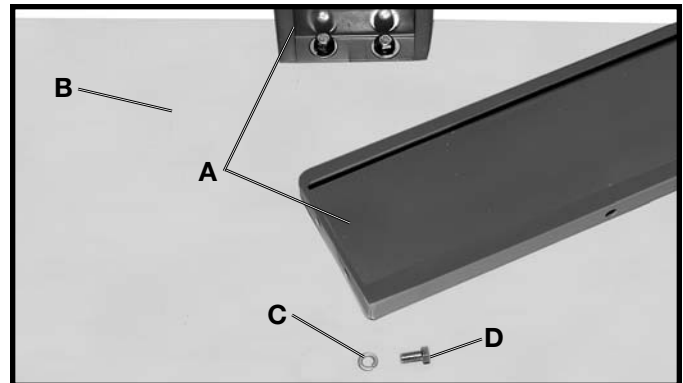

Fig. 7
2. Assemble two supports (A) Fig. 7, to the threaded holes at the sides of the base (B). Place a 5/16" lockwasher (C) on a 5/16-18 x 5/8" hex head screw (D), and insert the screw through the side support and thread the screw into the base. Repeat this process for the remaining screw. Attach the other side support in the same manner. **NOTE:** Do not completely tighten hardware at this time.